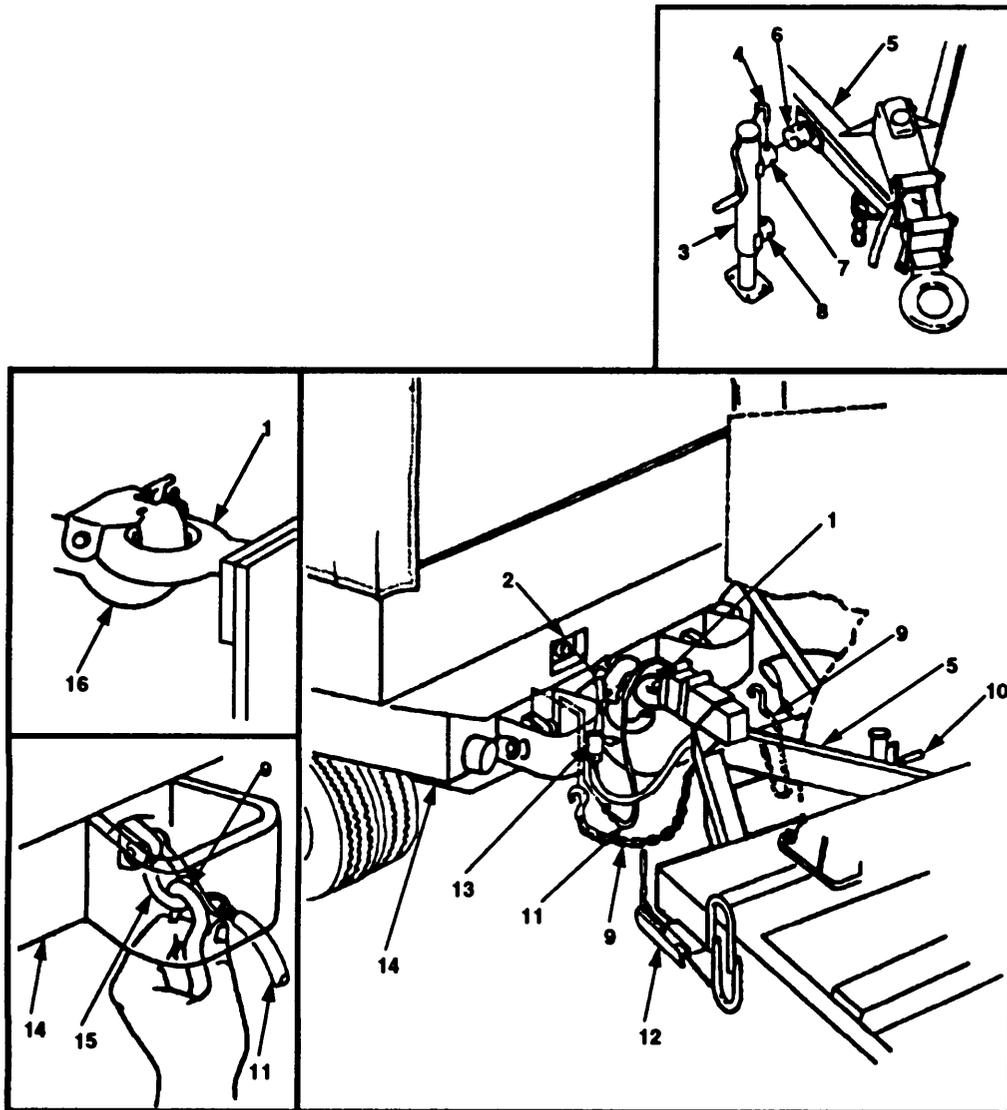

Figure 2-37. Connect Pumping Assembly, with Double-posted Front Jack, to Towing vehicle. (Model 609-A Shown)
- Use turncranks (2) to retract bottom legs (6) of both jacks (3).
- For right side jack, remove pin (5) from mounting sleeve (1) on trailer (8) and mounting post (4) on jack (3).
- Turn jack (3) to travel position (7). Align holes in mounting sleeve (1) and mounting post (4). Insert pin (5) to secure jack in travel position (7).
2.7.2.2 Securing Pumping Assemblies to Towing Vehicle. Refer to Figure 2-37 and secure pumping assembly to towing vehicle as follows: